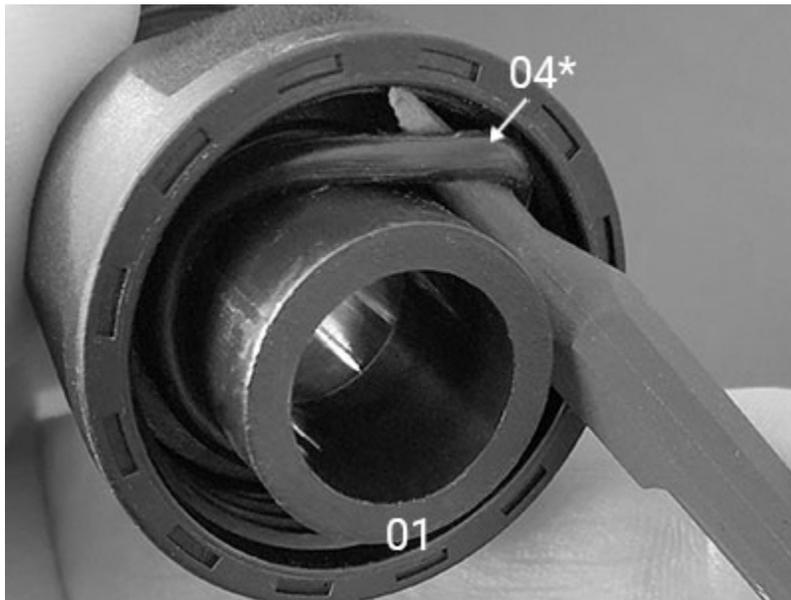

Fig. 4
1. Unscrew the threaded collar of the Hose Connector Assembly (01) from the Main Body (08), using an adjustable wrench to loosen if necessary. Remove O-ring (04*) using a heavy nylon pick - Fig. 4.